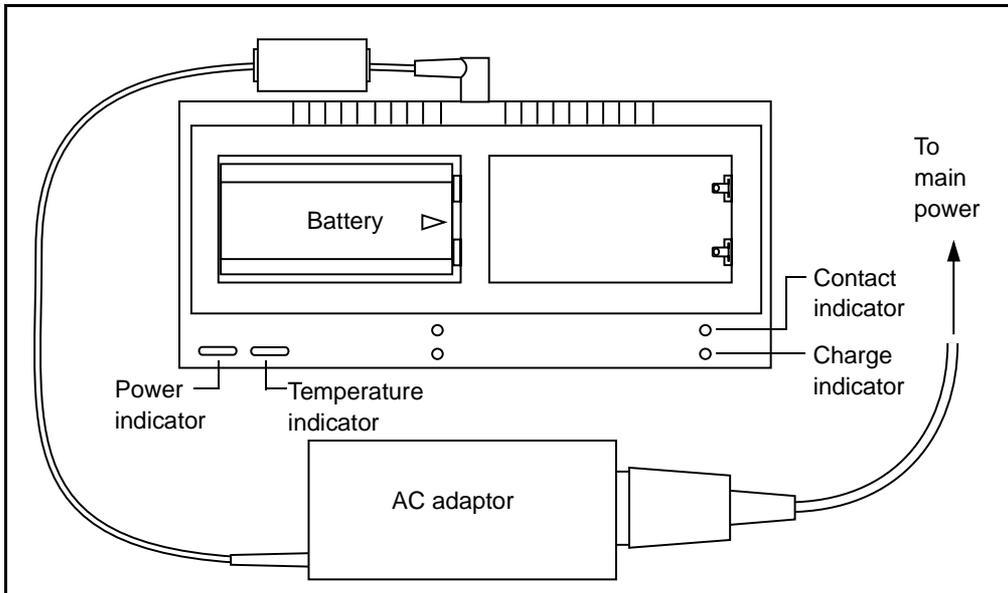

Figure 2.4 TSC1 battery charger
4. Connect the battery charger as shown in Figure 2.4, and insert the batteries.